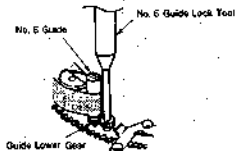

Fig. 8
- (11) Set to PLAY mode and check that the RF waveform is flat.
- (12) Turn and loosen the Guide Lower Gear counterclockwise with the No. 6 guide lock tool, (fig. 8).
- (13) Turn the No. 6 Guide and perform the height adjustment.
- (5) Turn and loosen the Guide Lower Gear counterclockwise with No. 6 guide lock tool. (fig. 8)
- (6) Turn the No. 6 Guide and perform the height adjustment.